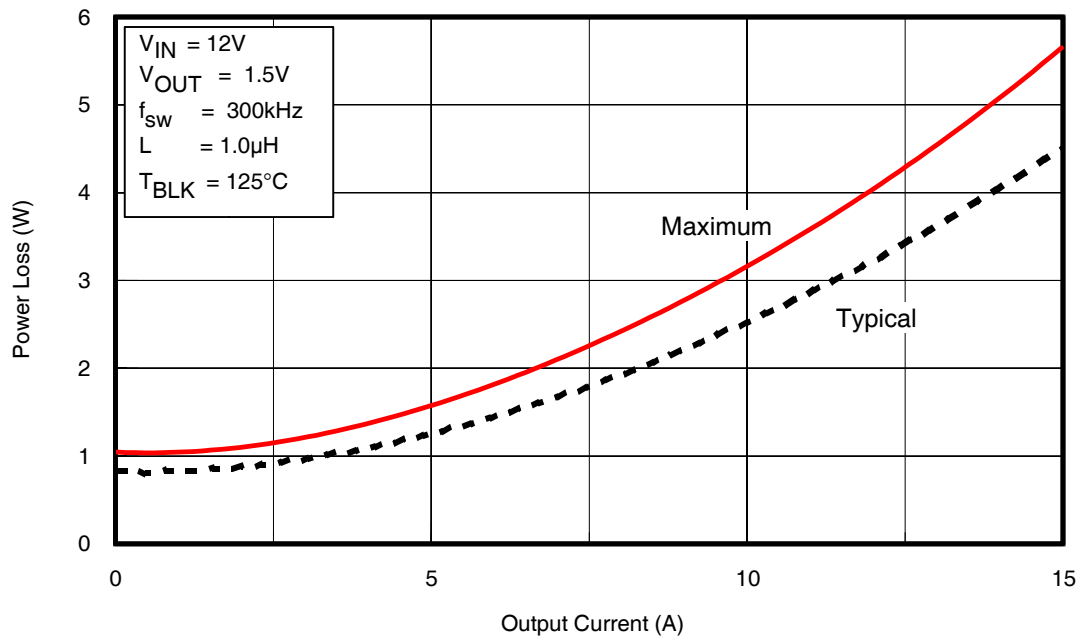
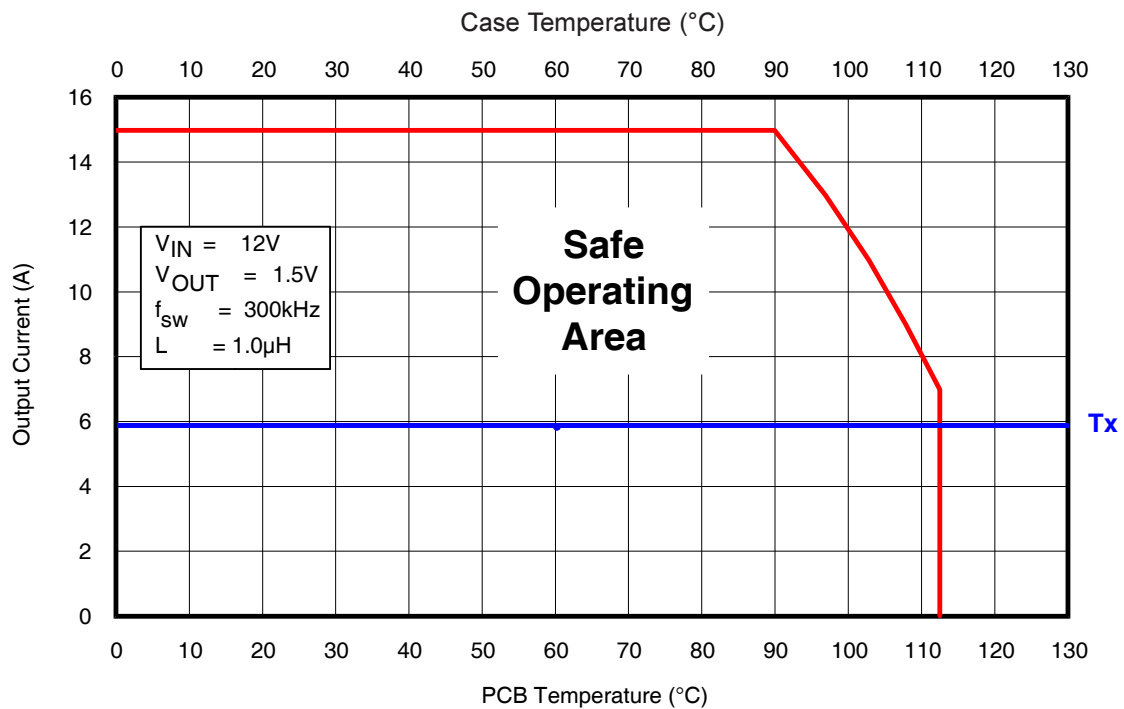
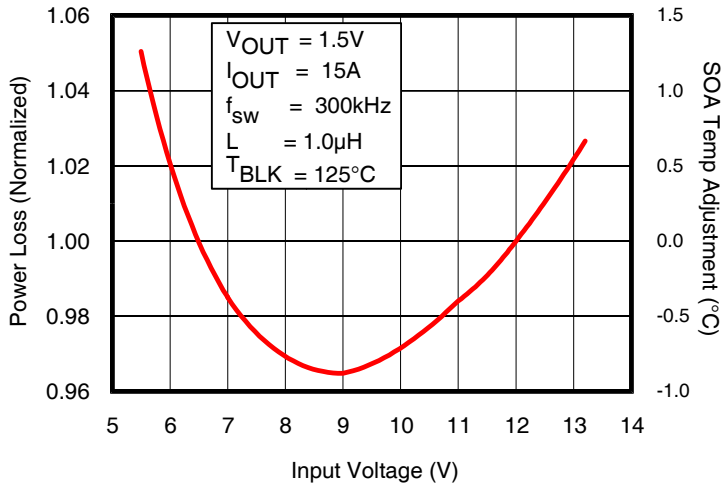

Fig. 2: Power Loss vs. Current
Fig. 3: Safe Operating Area (SOA) vs. T_{PCB} & T_{CASE}
Fig. 4: Normalized Power Loss vs. V_{IN}
To make adjustments to the power loss curves in Fig. 2, multiply the normalized value obtained from the curves in Figs. 4, 5, 6 or 7 by the value indicated on the power loss curve in Fig. 2. Then if multiple adjustments are required, multiply all of the normalized values together, then multiply that product by the value indicated on the power loss curve in Fig. 2. The resulting product is the final power loss based on all factors. See example no. 1.
To make adjustments to the SOA curve in Fig. 3, determine your maximum PCB Temp & Case Temp at the maximum operating current of each iP1203PbF. Then, add the correction temperature from the normalized curves in Figs. 4, 5, 6 or 7 to the T_x axis intercept (see procedure no. 2 above) in Fig. 3. When multiple adjustments are required, add all of the temperatures together, then add the sum to the T_x axis intercept in Fig. 3. See example no. 2.
- (Fig. 2) Maximum power loss = 4.1W
- (Fig. 4) Normalized power loss for input voltage ≈ 1.025
- Output1 (Fig. 4) Normalized SOA Temperature for input voltage $\approx +0.7^{\circ}\text{C}$